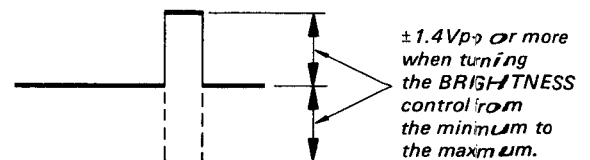

Fig. 5-130.
9. Make sure the brightness pulse (TP8) is ± 1.4 V_{p-p} or more when turning the BRIGHTNESS control from the minimum to the maximum. (See Fig. 5-130.)